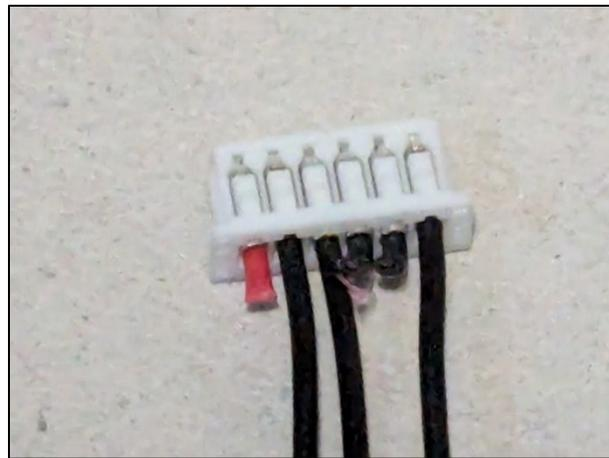

Figure 93 Serial cable with wires 1, 4, and 5 trimmed
2. With the red wire to the left and progressing to the right, cut off wires 1, 4, and 5 as shown in **Figure 93**.